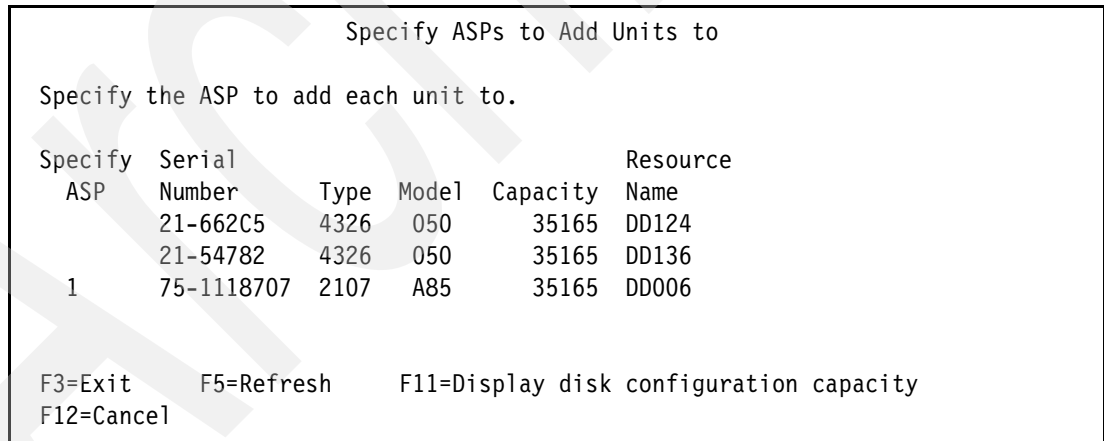

Figure 5-21 Specify ASPs to Add Units to panel
- In the Specify ASPs to Add Units to panel (Figure 5-21), specify the ASP number next to the desired units. Here, we specify 1 for ASP, which is the System ASP. Press Enter.